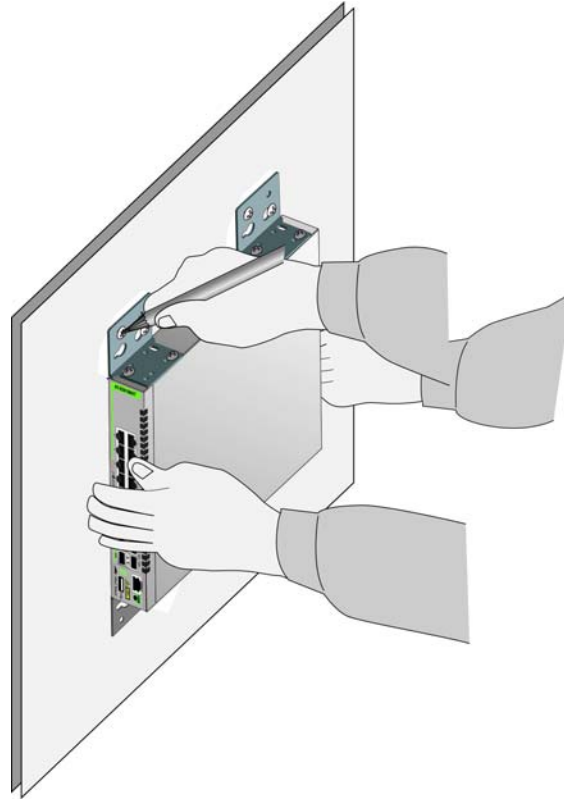

Figure 44. Marking the Locations of the Bracket Holes on a Concrete Wall
3. Have another person hold the switch on the concrete wall at the selected location for the device while you use a pencil or pen to mark the wall with the locations of the four screw holes in the four brackets (one screw per bracket). Refer to Figure 44 on page 79.